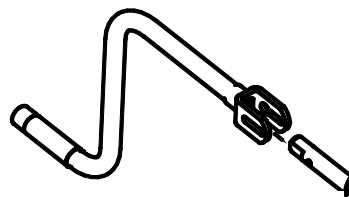

FIGURE 1
2. Align the hole in the input shaft with the slot in the new crank. Now, slide the crank onto the shaft (see Figure 1).
5. Thread the flange nut onto the carriage bolt with the flange away from the clevis (see Figure 1). Tighten the flange nut until it bottoms out against the shoulder of the carriage bolt.